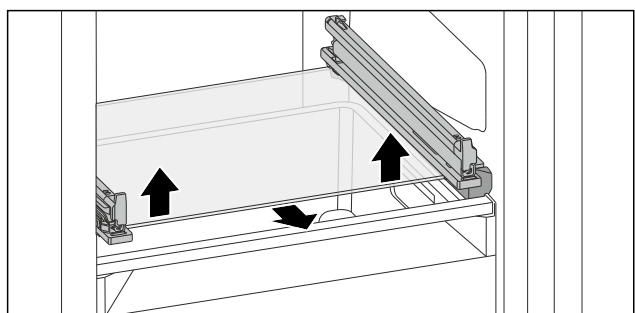

Fig. 139 Tilting drawer glass shelf
- Push glass shelf upwards from below on both sides. (see Fig. 139)